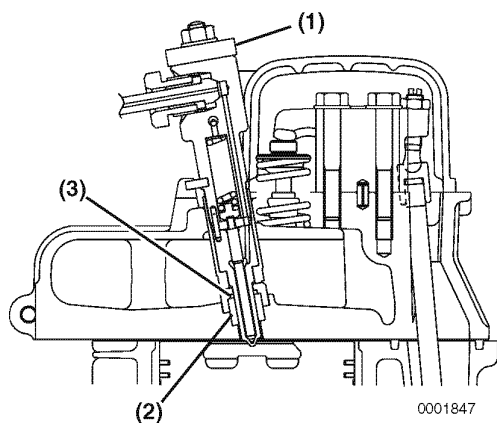

Figure 9-29
4. Remove the fuel injector retainer plate (**Figure 9-29, (1)**).
6. Remove the injector nozzle gasket (**Figure 9-29, (2)**) and spacer (**Figure 9-29, (3)**). If the injector nozzle gasket and spacer remain in the cylinder head, remove them from the cylinder head by threading an 8 mm or 9 mm bolt, at least 200 mm long, into the gasket. Use the bolt as a puller. Discard the gasket.